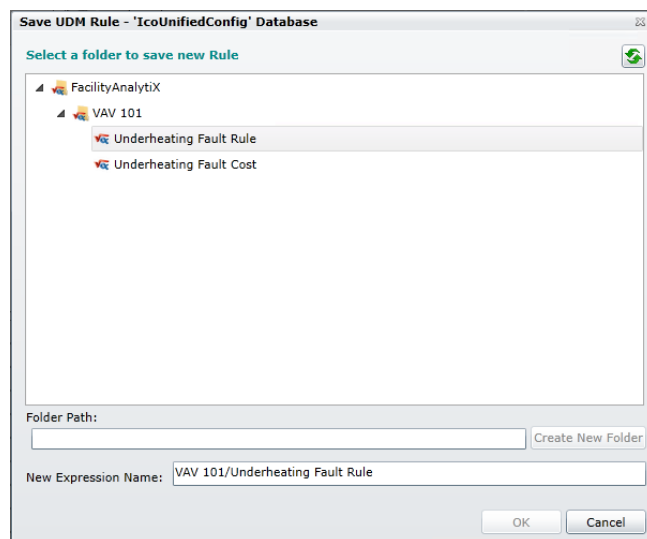

Figure 1 - Saving Fault Rule
11. In the 'New Expression Name' field, type in 'Underheating Fault Rule', as shown in Figure 1.